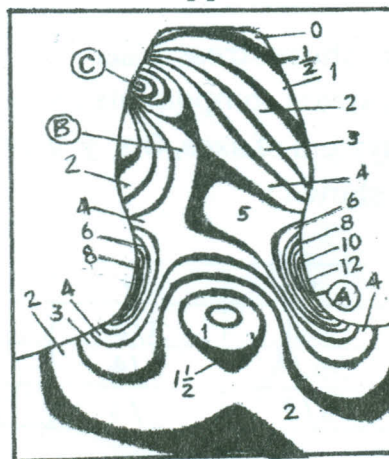

Fig.1
- (b) Fig.1 shows isochromatic fringe pattern in a photoelastic gear tooth model subjected to a contact force. If the specimen thickness is 4 mm and the material constant $f_\sigma = 60 \text{ KN/m}$, determine the maximum shear stress at points A, B, C.